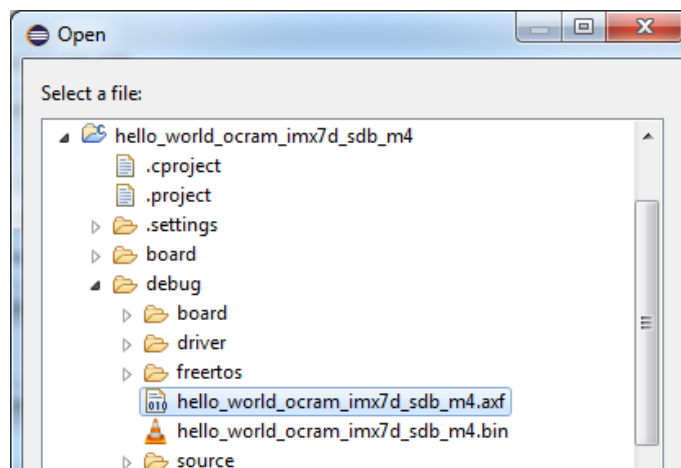

Figure 8 - Application to download
6. Click on the “Files” tab and then the “Workspace” button. Select the `axf` file in the “debug” folder as shown in Figure 8.